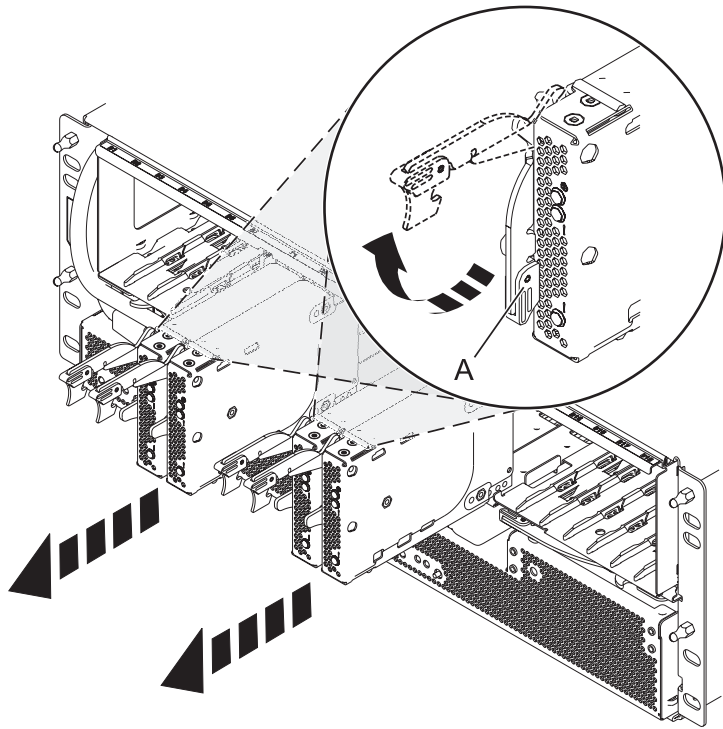

Figure 23. Removing the port card from the backplane
7. Remove the port cards and fillers as shown in Figure 23 on page 31.
- a. Grasp the end of the latching handle (A) and pull it upward to unlock the port card.